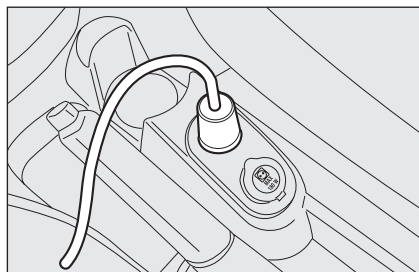
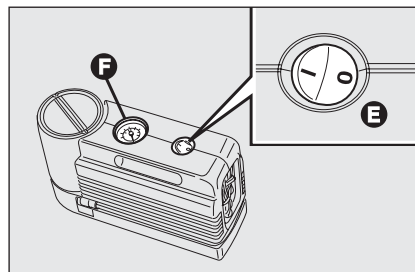

fig. 16
fig. 17
- ☐ make sure that switch **E-fig. 17** on the compressor is in position **0** (off), start the engine, plug into the socket **D-fig. 16** and operate the compressor turning switch **E-fig. 17** to position **I** (on). Inflate the tyre to the pressure specified in the "Inflation pressure" paragraph in the "Technical Specifications" section. For a more accurate reading, check the pressure on gauge **F-fig. 17** with the compressor off;